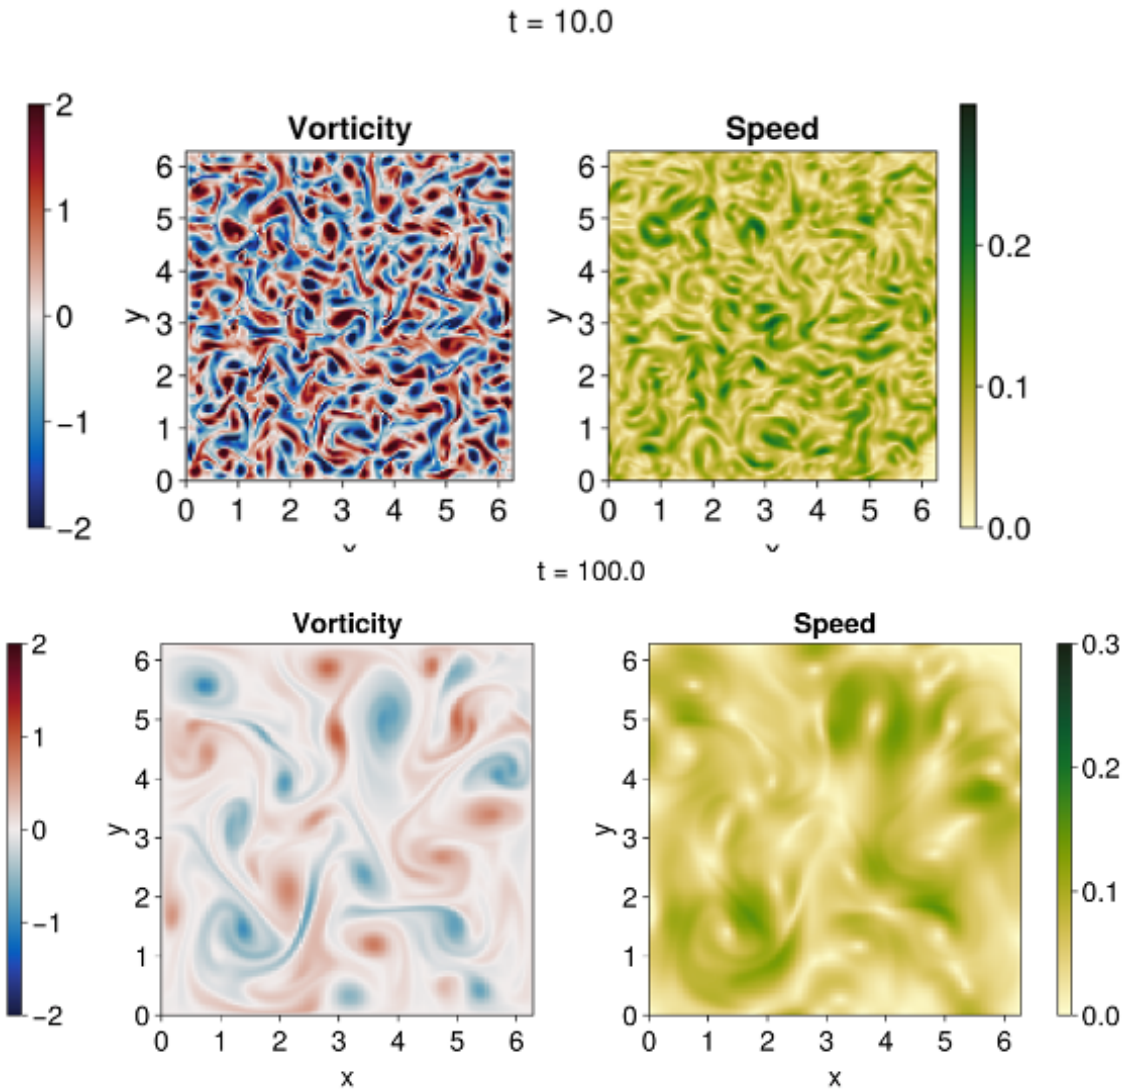

Figure 1. Expected unit test output for Q1.1.2
- Unit test expected output: see Figure 1 below
- Unit test results: Plots of vorticity and speed. They should look similar to those in Figure 1.